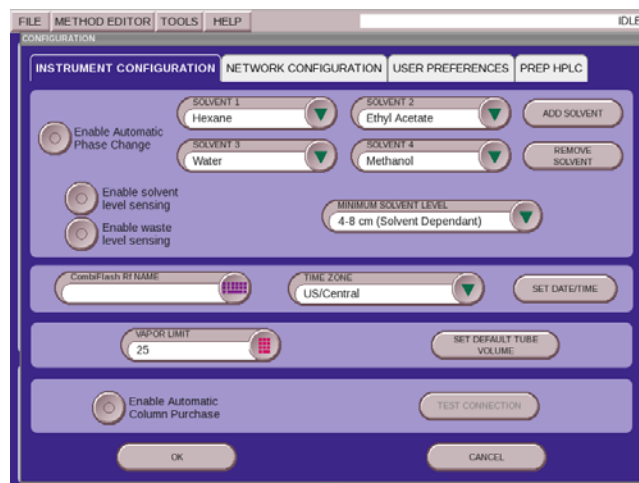

Figure 3: Solvent line numbers assigned to the solvent names
4. To deactivate the Automatic Phase Change simply press the ENABLE AUTOMATIC PHASE CHANGE button a second time. Note that the labels above the solvent name now display the solvent line numbers (Figure 3).